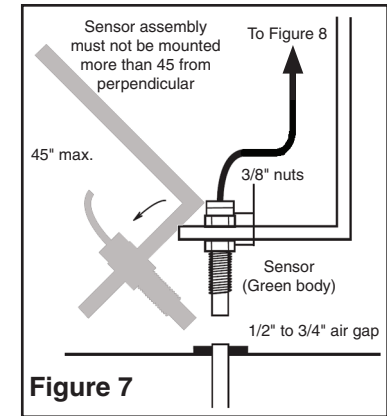

Figure 7
The Magnetic Sensor (F) is mounted directly over the magnets as shown in figure 3. When the wheel or drive shaft begins turning, a speed impulse is sent to the DMI every time a magnet passes by the tip of the speed sensor. For the speed sensor to operate properly, the spacing between the magnets and the tip of the sensor must always remain constant. Before permanently mounting any parts, be sure that the location you have selected will meet the requirements shown in Figure 7. NOTE: Observe magnet polarities (see previous section).